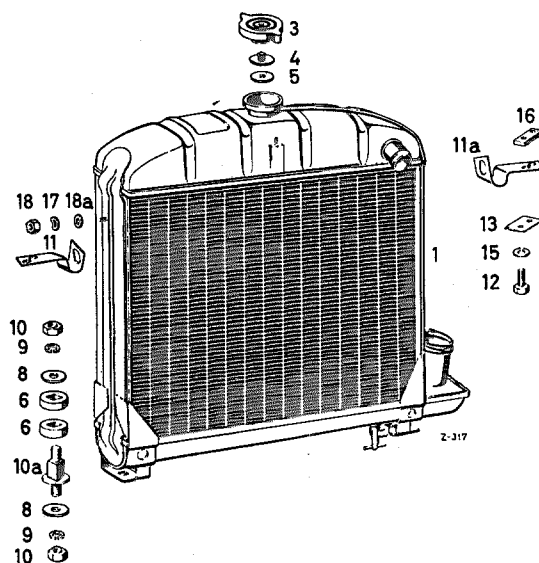

Fig. 50 — 1/1
1. Open the engine hood and remove the radiator cap (3) (see Fig. 50 — 1/1).
2. Open the outlet valves (4) and (9) (see Fig. 50 — 0/1) and drain off the cooling water; collect the water if additives, such as anti-freeze, anti-corrosive etc., are present.
4. Unscrew the two flat springs (11) and (11a) for the upper radiator mounting at the left and the right on the radiator and at the front cowl panel (see Fig. 50 — 1/1).